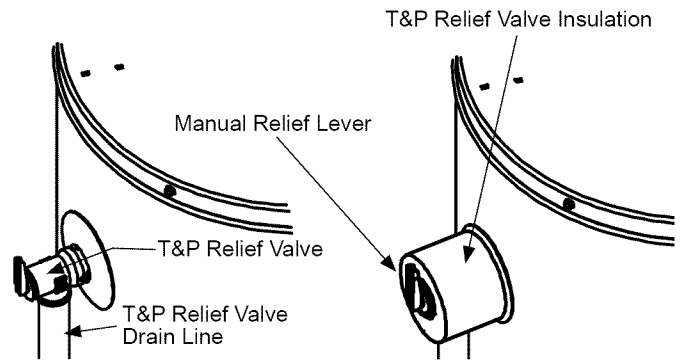

FIGURE 9.
1. Locate the temperature and pressure relief valve on the water heater (also known as a T&P relief valve). See Figure 9.
valve. See Figure 9. Apply gentle pressure to the insulation to ensure that it is fully seated on the T&P Relief Valve. Once seated, secure the insulation with duct tape, electrical tape, or equivalent. **IMPORTANT:** The insulation and tape must not block the discharge opening or hinder access to the manual relief lever (Figure 9). Ensure a discharge pipe is installed into the T&P valve discharge opening per the instructions in this manual.